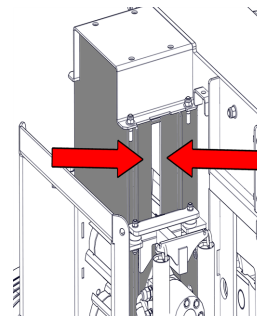

Figure 30 - Greasing the Roller box Slides
5. Apply thin grease, with a brush, directly to the slide surfaces, including the inner cheeks of the slider (Figure 30).